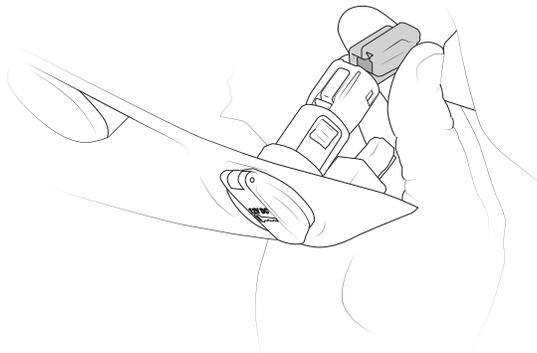

Figure 5
15. Remove the lower switch panel, and then unplug the power plug from the 12 volt outlet* (fig. 5).